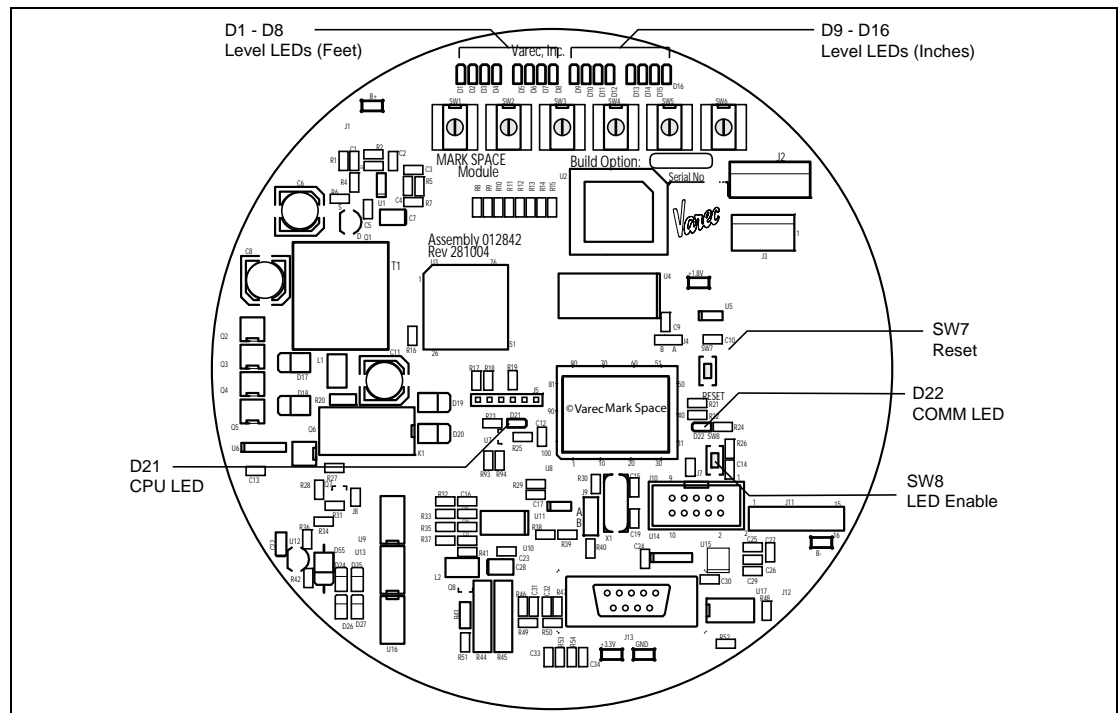

Figure 9–6: Communications Board Diagnostic Switches and LEDs (Mark/Space shown)
8. While holding the shaft in place, rotate the Inch disk until LEDs D9 – D16 transition between the 5 15/16-inch and 6-inch points (see Figure 9–2 on page 54). This is the Inch disk transition point.
2. Press switch SW8 on the communications circuit board. The LEDs illuminate. See Figure 9–5 for switch and LED locations.
2. Press switch SW8 on the communications circuit board. The LEDs illuminate. See Figure 9–6 for switch and LED locations.